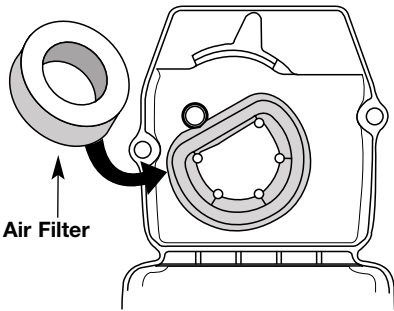

Fig. 31
2. Remove the air filter from behind the air filter/muffler cover (Fig. 31).
6. Replace the air filter in the air filter/muffler cover (Fig. 31).